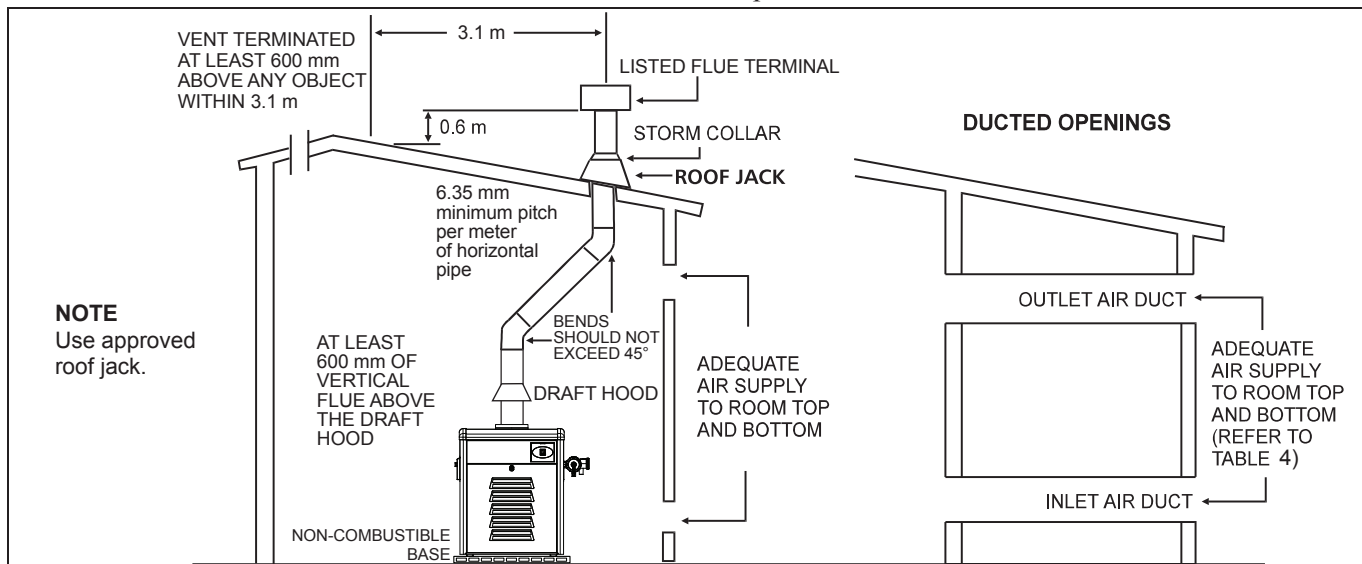

Figure 4. Indoor Installation Venting or Outdoor Shelter Venting
In general, the room in which a heater is installed should be provided with two (2) permanent air supply openings; one within 305 mm of the ceiling, the other within 305 mm of the floor. All indoor installations must have uninterrupted openings to outside air for combustion, ventilation, and dilution of flue gases from inside the building (see Figure 4 and Table 4). Zodiac, does not recommend indoor installations that do not provide combustion air from outside the building.
Connect the draft diverter to a Type B11 flue system of at least the same diameter, and end at least 0.6 meters above the highest point of the roof or other object that is within 3.05 m of the vent. Install a certified terminal which allows a full equivalent opening for flue products (see Figure 4). There must be at least 600 mm of vertical flue above the drafthood. Bends in the flue should not exceed 45° to the vertical.
The draft hood outlet is to be connected to an unobstructed vent pipe of the same diameter, terminating outside the building. The vent must terminate at least 0.6 m above the highest point of the roof or other object that is within 3.05 m of the vent termination. The vent pipe must have a listed vent cap which allows a full equivalent opening for flue products (see Figure 4). The top of the vent cap must be at least five (5) feet in vertical height above the draft hood outlet.